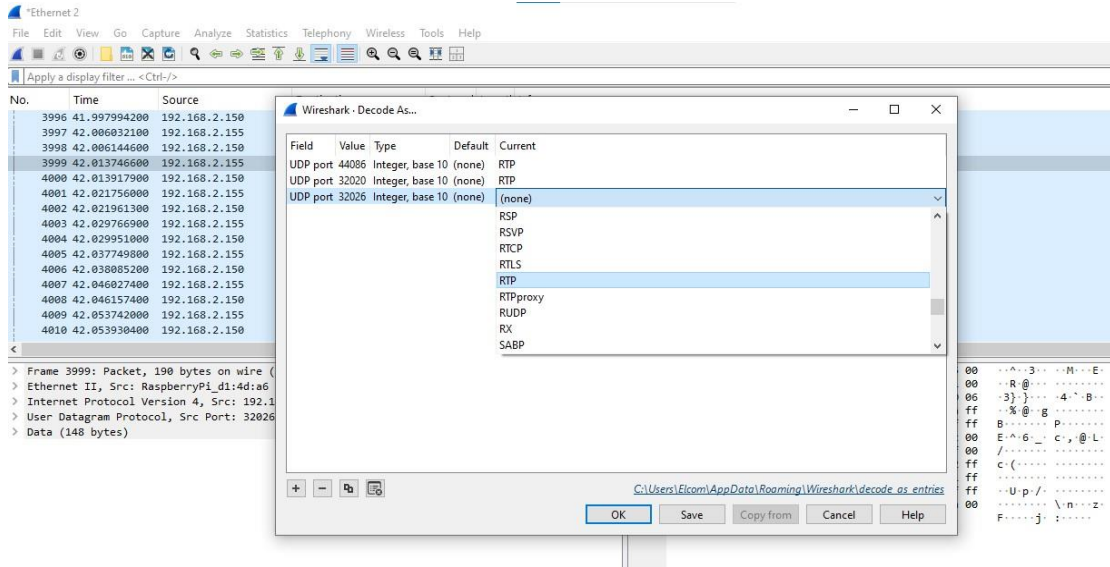

Figure 44: UDP Packet open as RTP
- 12 Click on the Data shown as UDP port 32026 (none) in above Figure 44 and converted into RTP.